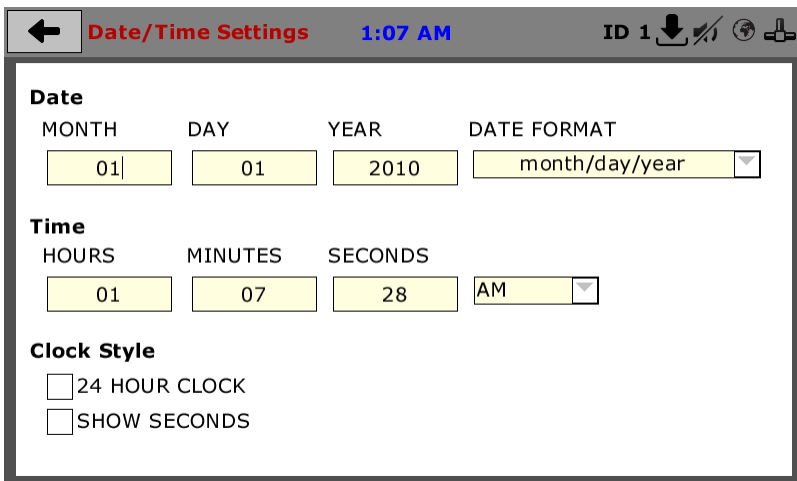

Figure 5
- 3) The Time and Date Settings Screen will appear, as seen in Figure 5.